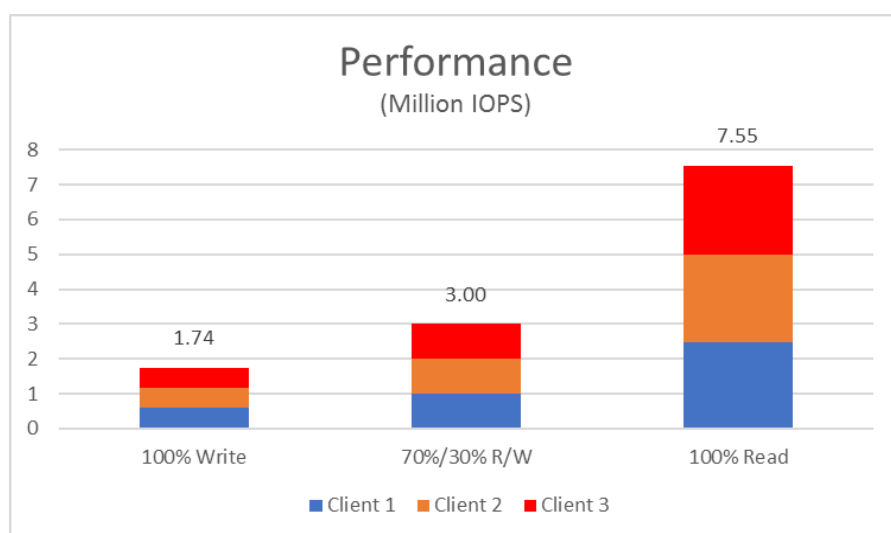
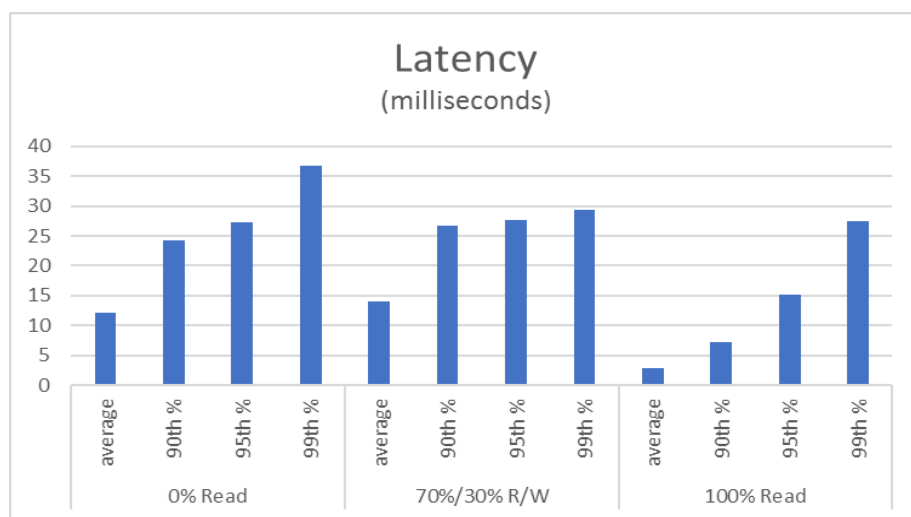

Figure 7: Performance Results for 3-Node Excelero NVMesh Cluster
Figure 8: Latency Results for 3-Node Excelero NVMesh Cluster
Analyzing the test results (Figure 7, Figure 8), several observations can be made:
- 99th percentile latencies are less than 30ms for 70%/30% read/write workload and a RAID-1/0 volume configuration (Figure 8). This is in line with our expectations based on real-world, measured local SSD latency for the 9100 Max SSD and the use of the XFS file system and RAID level at higher queue depths for this workload profile.